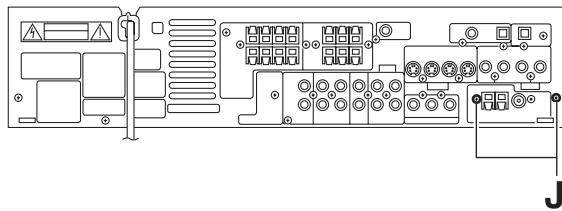

Fig.8
(See Figs.8 and 9)
- (1) From the back side of the main body, remove the two screws **J** attaching the tuner. (See Fig.8.)